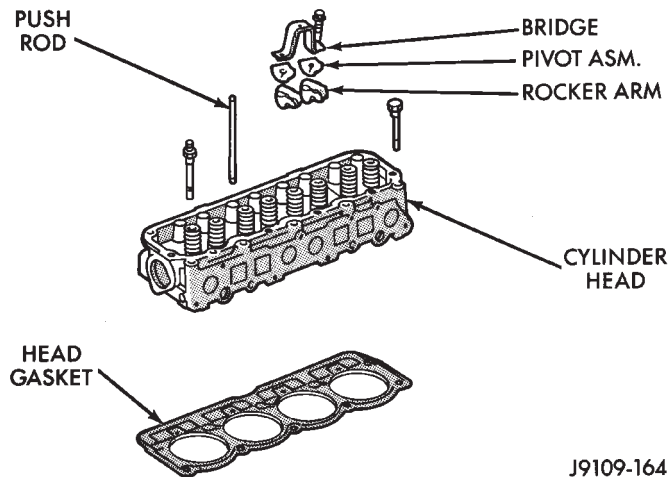

Fig. 34 Engine Cylinder Head Assembly
(10) Perform fuel pressure release procedure (Refer to Group 14, fuel systems for proper procedures).
(11) Remove the latch clip and disconnect the fuel supply hose.
(12) Remove the intake and engine exhaust manifolds from the engine cylinder head (refer to Group 11, Exhaust System and Intake Manifold for the proper procedures).
(13) Number and disconnect the ignition wires and remove the spark plugs.
(14) Disconnect the coolant temperature sending unit connector.
(15) Remove the engine cylinder head bolts.
(16) Remove the engine cylinder head and gasket (Fig. 34).
(17) If this was the first time the bolts were removed, put a paint dab on the top of the bolt. If the bolts have a paint dab on the top of the bolt or it isn't known if they were used before, discard the bolts.
(18) Stuff clean lint free shop towels into the cylinder bores.